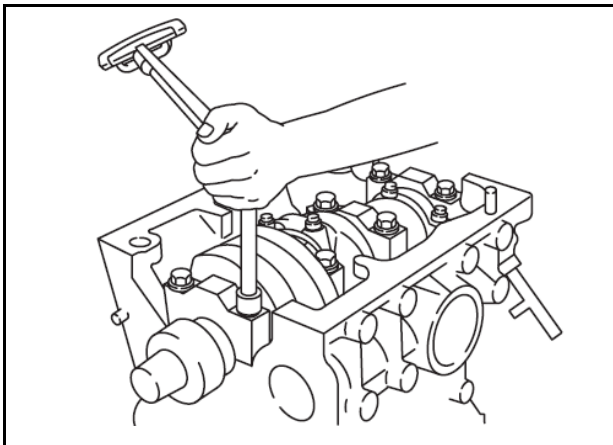

Fig.5-Torque Bearing Cap
2. Assemble main bearing cap with bearing and torque to 58.3 Nm, Fig. 5.